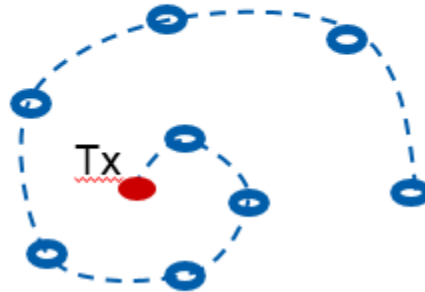

Figure 2 Sunflower Array
- 2) Arrange antenna elements in sparse sunflower distribution across area eliminating spatial ambiguities to generate image, this is depicted in Figure 2[3].